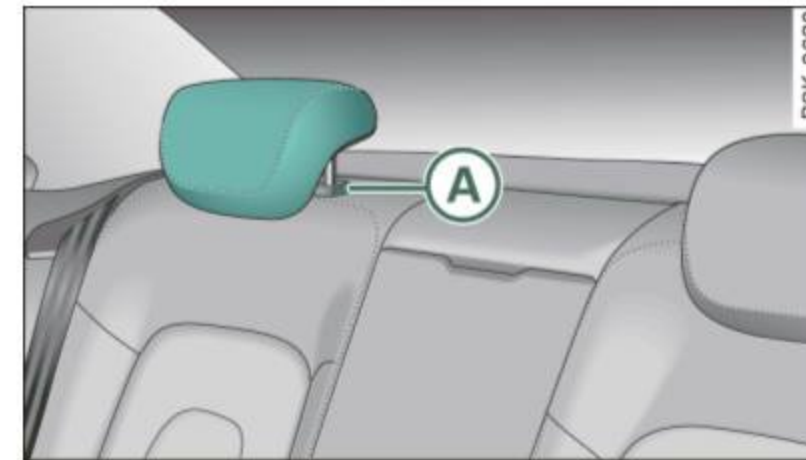
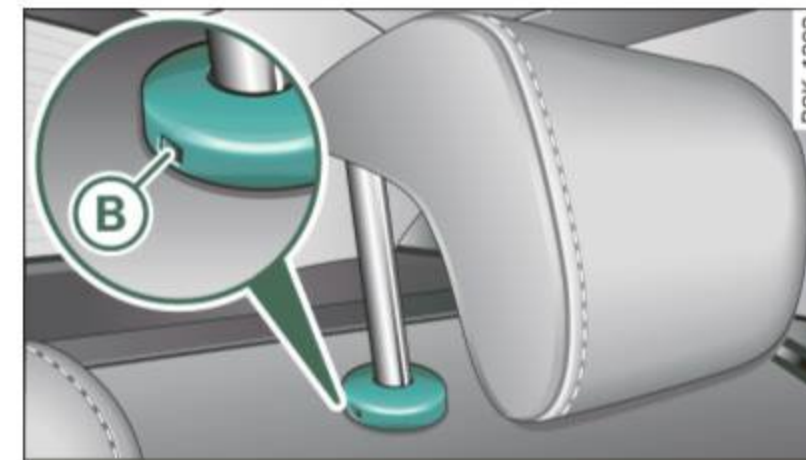

Fig. 75 Rear seats: Head restraint
Fig. 76 Rear head restraints: release
- To move the head restraint down, press the button  ⇒ fig. 75 and slide the head restraint downward.
- Press the release (B) ⇒ page 81, fig. 76 with the mechanical key ⇒ page 44 and the button (A) ⇒ page 81, fig. 75. Pull the head restraint out of the backrest at the same time ⇒ ⚠.
- Press the button (A) ⇒ page 81, fig. 75 and slide the head restraint all the way down. You should not be able to pull the head restraint out of the backrest.